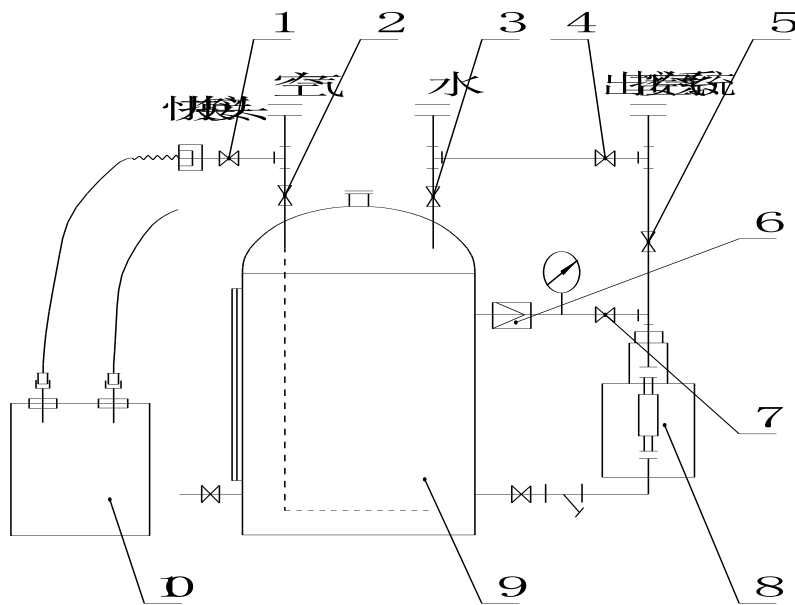

图 4
6.2 Methods of use and operating procedures - Figure 4
2. When filling the isolation fluid, connect the No. 10 isolation fluid tank with quick-change couplings as shown in Figure 4. Close valve 2 and slowly open valve 1. Slowly press the antifreeze solution into the reservoir with compressed air and close valve 1 when the demand is reached.